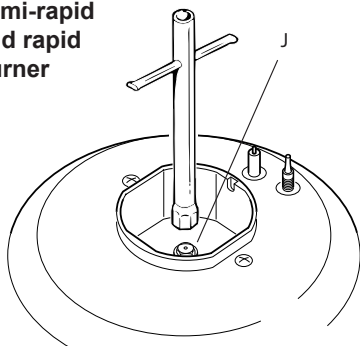

Fig. 2.3a
- Using a wrench, substitute the injectors “J” (figs. 2.3a, 2.3b, 2.3c, 2.3d) with those most suitable for the kind of gas for which it is to be used.